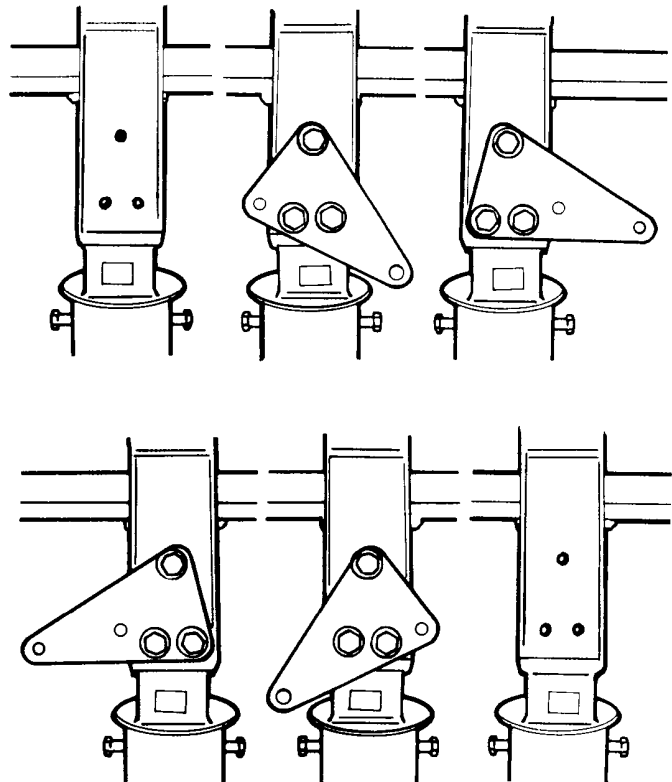

FIGURE 8
STEP 8. Attach the actuator bracket in one of the positions shown in figure 8. Use 1/2"-13x1-1/2" bolts, locking nuts with flat washers under the heads of the bolts.